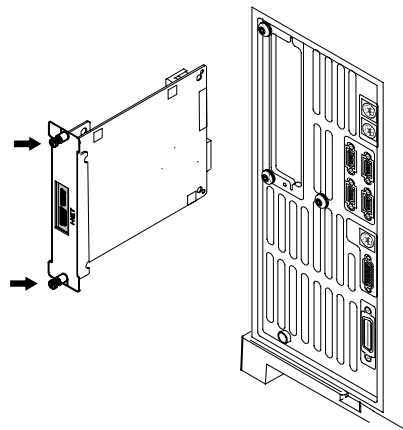

Figure 32 Removing the LAN card
- 8** If an MIO card (LAN card) is installed, loosen its two mounting screws and slide the card out of the GC (Figure 32).